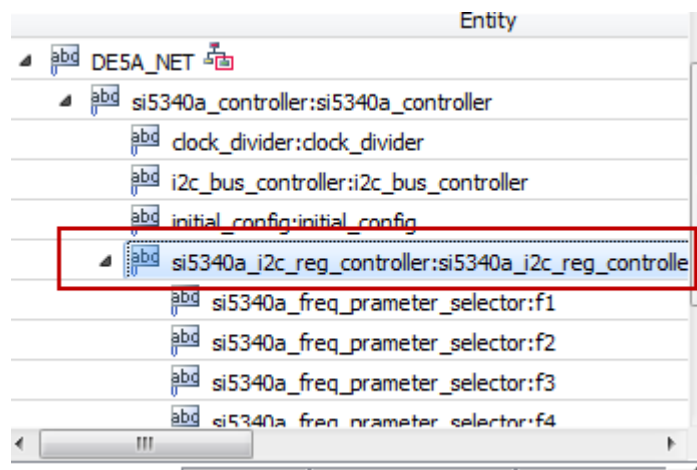
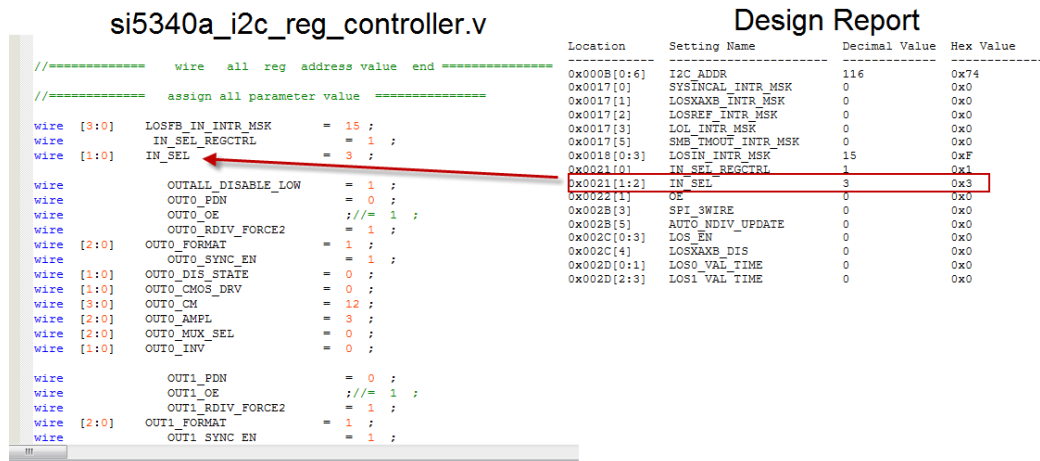

Figure 5-9 Sub-Module file "si5340a_i2c_reg_controller.v"
Figure 5-10 Modify Si5340 Control IP Base on Design Report
- Open Si5340 control IP sub-module "si5340a_i2c_reg_controller.v " as shown in **Figure 5-9**, refer Design Report parameter to modify sub-module corresponding register value (See **Figure 5-10**).